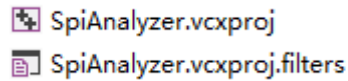
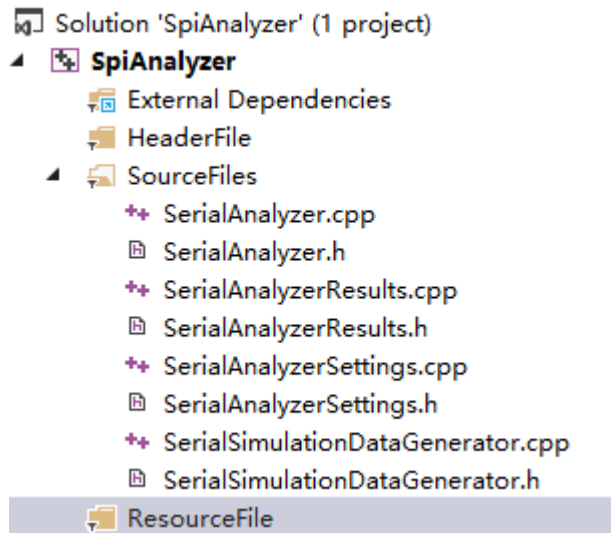
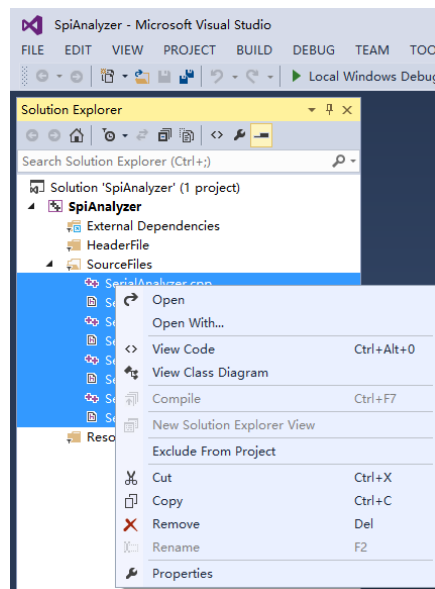

Fig.2
Fig.3
Fig.4
Analyzer, then open the folder, replace the source file in the *src* folder with the source file suitable for parsing the Spi, we will discuss how to build the specific source file in the next chapter. and then open *vs2013* Folder, modify the two files as shown in Figure 2
3. Click the *SpiAnalyzer.vcxproj* file shown in Figure 2 to open the project, click **Source File**, as shown in Figure 3, remove the existing files under the **Source File**. Right click the files you choose, and then Click **remove**, as shown in Figure 4, click in the pop-up dialog box to confirm.